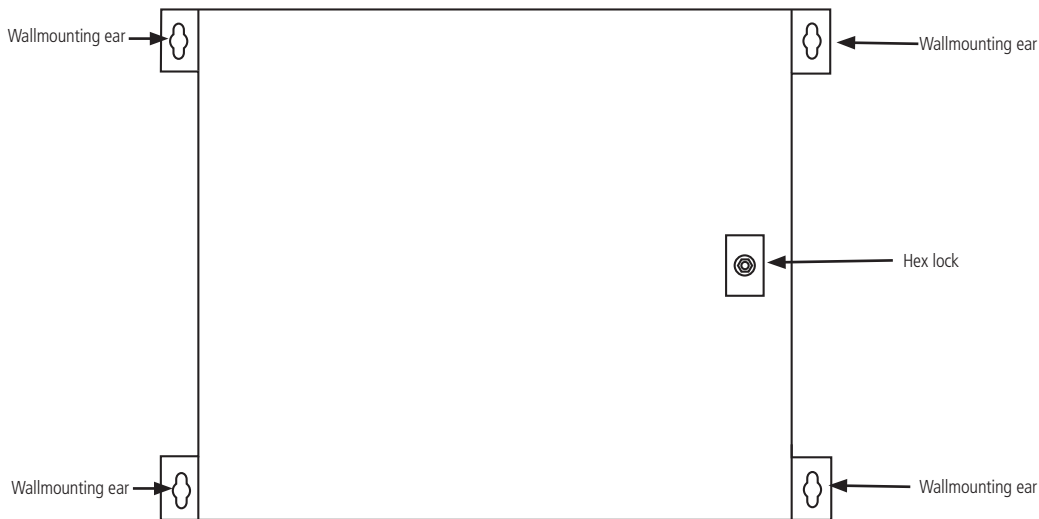

Figure 1. Outside view of cabinet.
2. Position the four mounting tab ears on the wall. See Figure 1.